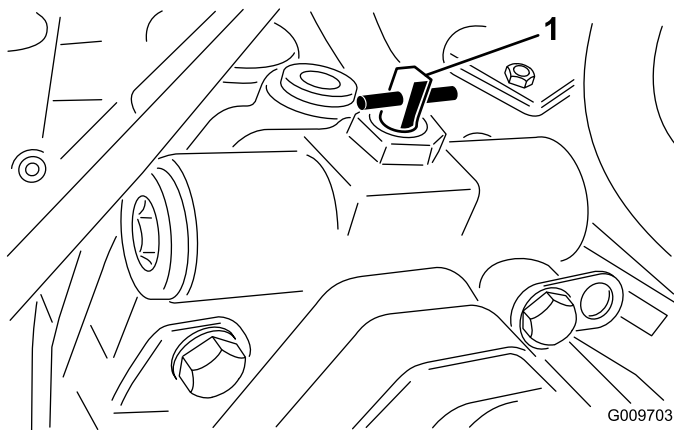

Figure 41
2. Rotate the bypass valve 90° (1/4 turn) in either direction to open and allow oil to bypass internally (Figure 41). Because fluid is bypassed, the machine can be slowly moved without damaging the transmission. Note the position of the valve when opening or closing.